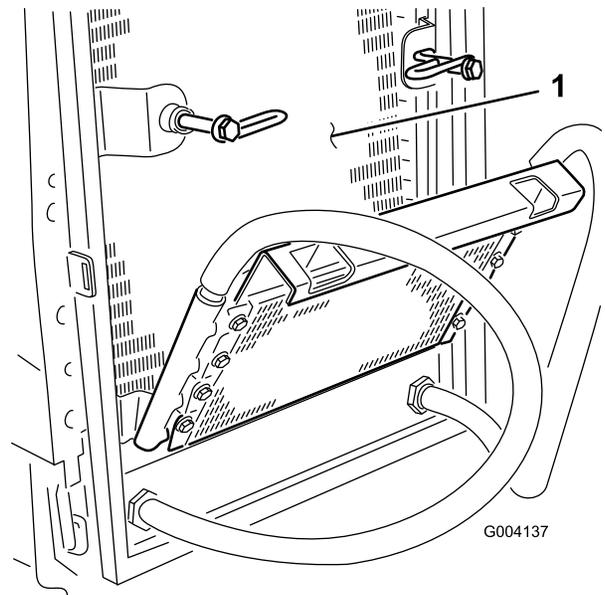

Figure 66
6. Thoroughly clean both sides of the oil cooler and the radiator (Figure 66) with compressed air.